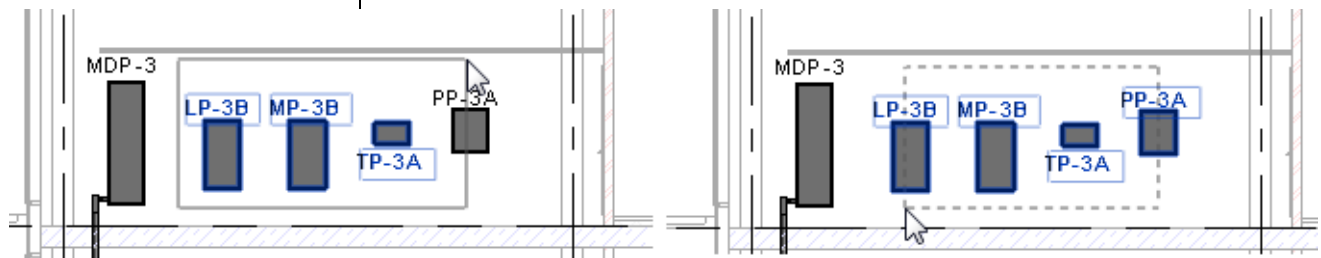

Figure 2–15
- If you click and drag the cursor to *window* around elements, you have two selection options, as shown in Figure 2–15. If you drag from left to right, you only select the elements completely inside the window. If you drag from right to left, you select elements both inside and crossing the window.